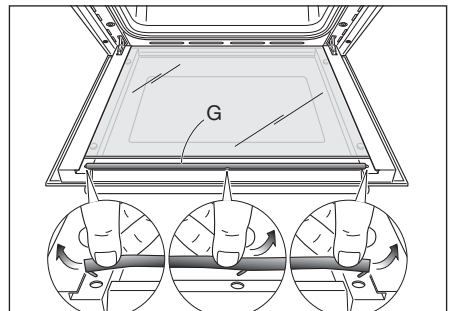

Fig.35d
- Remove the seal "G" by unhooking the three fixing hooks (Fig. 35d).